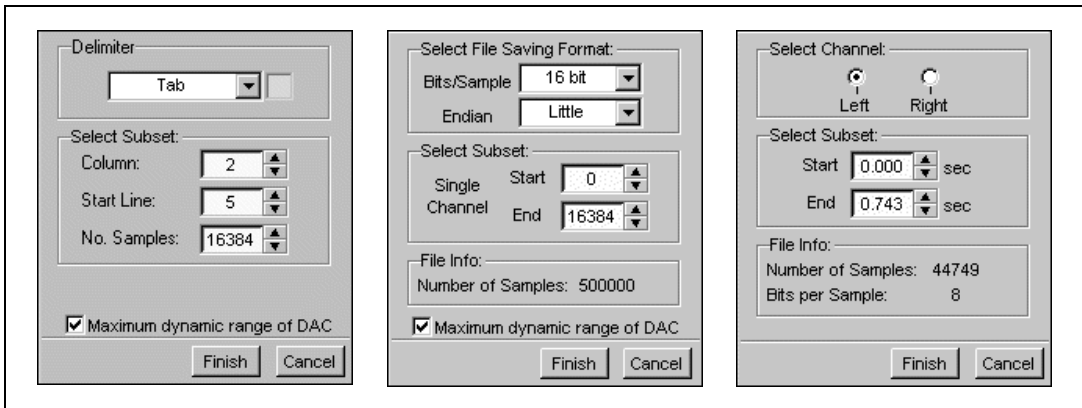

Figure 1-9. Waveform Import Dialogs
2. Choose the file which contains the waveform pattern to import. The supported file formats are sound (.wav), text (.txt), and binary (.bin). Depending on the file you choose, one of the screens in Figure 1-9 is displayed.